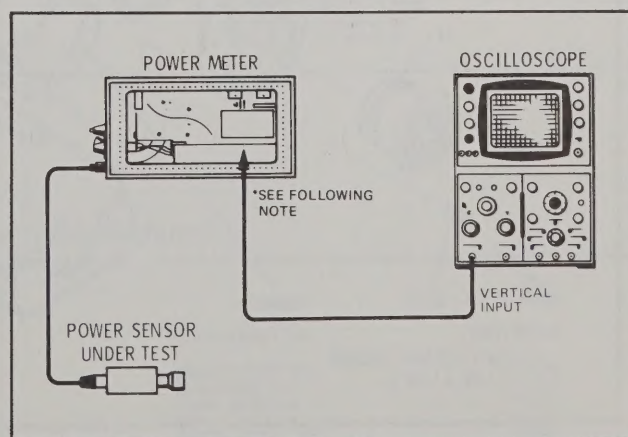

Figure 5. FET Balance Equipment Setup
36. Procedure. Connect the equipment as shown in Figure 5. Set the power meter range control to $3\mu\text{W}$. Check the amplitude of the switching transients (spikes) on the oscilloscope display. If A2C2 or A2C7 is in the circuit, vary its value between 1 and 10 pF until the balance point (minimum spike amplitude) is found. If the balance point is not reached, remove the capacitor and follow the same procedure using the other capacitor location (A2C2 or A2C7). When the